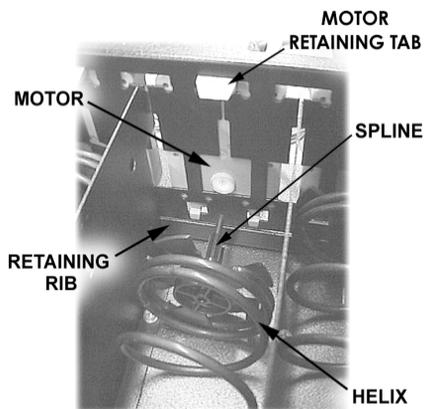

Figure 5.3. Auger Timing
5. Tilt motor back and lift up approximately 1/2" to disengage the auger hub from the retaining rib in the bottom of the tray. See **Figure 5.3**.